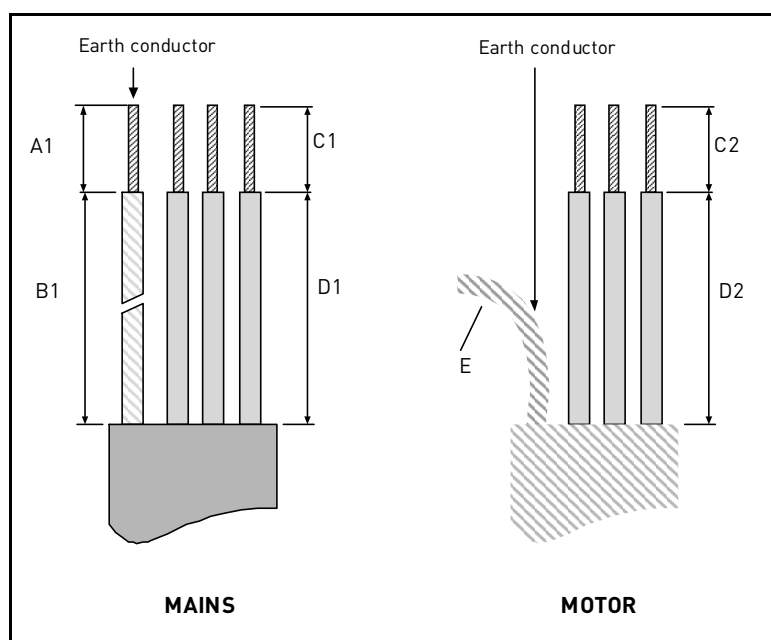
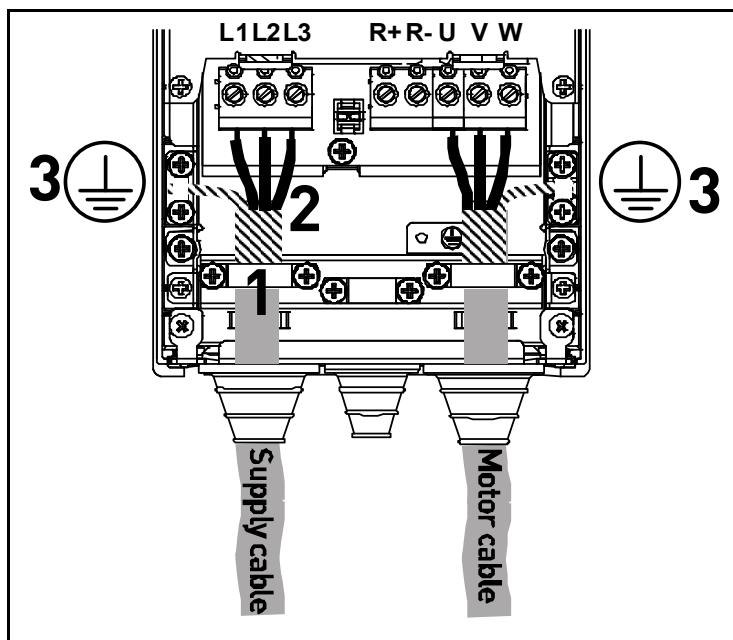

Figure 19. Stripping of cables
Figure 26.
Connect the stripped cables (see Figure 19 and Table 19) as shown in Figure 26.
- Expose the shield of all three cables in order to make a 360-degree connection with the cable clamp (1).
- Connect the (phase) conductors of the supply, brake and motor cables into their respective terminals (2).
- Form the rest of the cable shield of all three cables into "pigtailes" and make a grounding connection with a clamp as shown in Figure 26 (3). Make the pigtailes **just long enough** to reach and be fixed to the terminal - not longer.